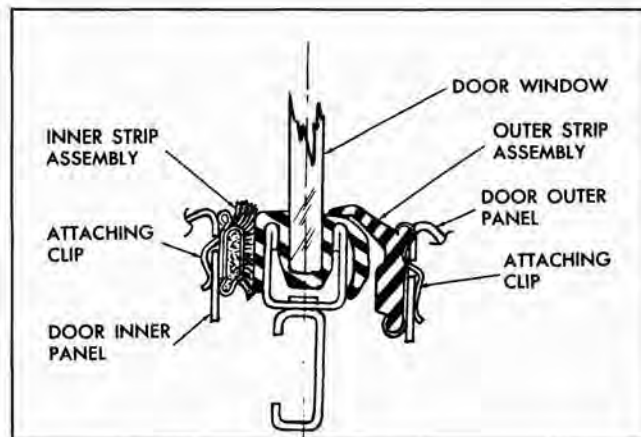

Fig. 13-8 Glass Run Channel
Glass run channel strip assemblies are used on all doors on all styles incorporating a dropping window and are designed to prevent cold air and water from entering the body between the door window lower sash channel and door inner and outer panels. The inner strip assembly is secured to the door inner panel by a series of attaching clips. The outer strip assembly is constructed of a molded rubber and is secured to a metal retainer by a series of staples. On styles equipped with a door window belt reveal molding, the metal retainer is an integral part of this molding. In either case, the molding or retainer is secured to the door outer panel by a series of attaching clips. Moldings are further retained by two (2) attaching screws, one at each end. When the door window is raised, the top section of the outer strip assembly is lifted and held in position by the door window lower sash channel and/or filler (Fig. 13-8).